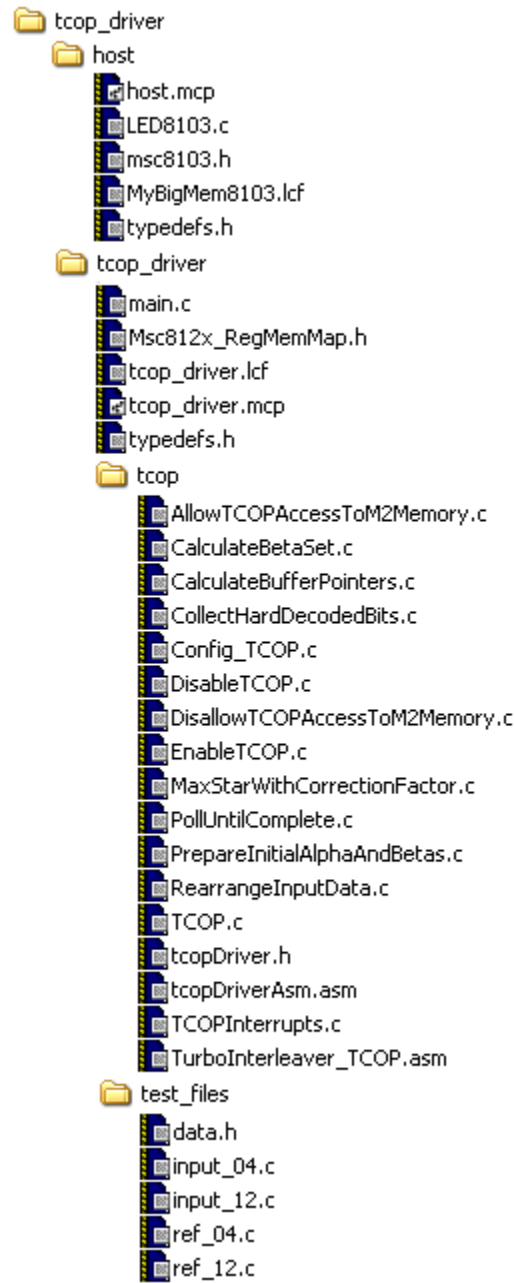

Figure 1. TCOP Driver File Structure
The TCOP driver files are contained in a zip file named `tcop_driver.zip`. **Figure 1** shows the directory structure for the driver files after they are extracted from the zip file. There are two main directories, one for each of the CodeWarrior (CW) projects included in the TCOP driver.